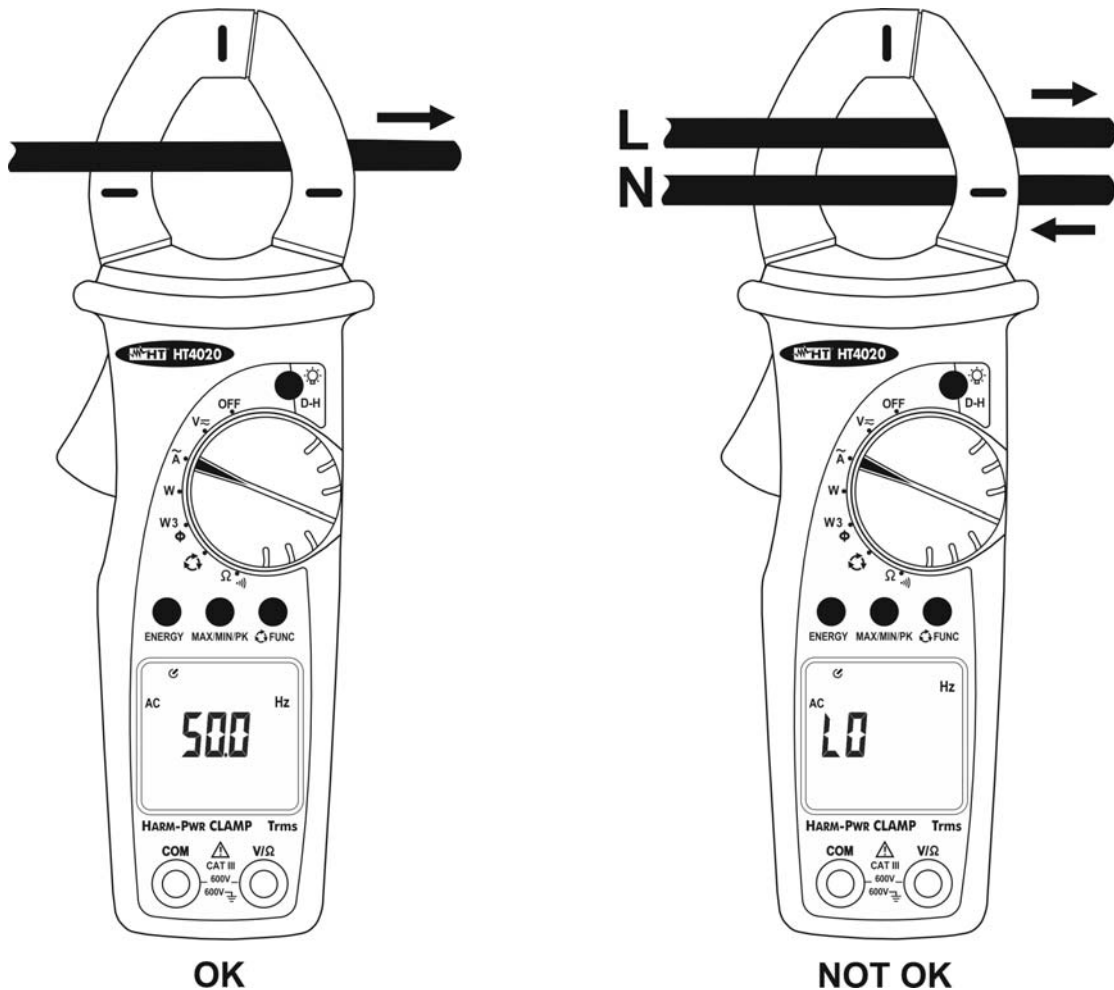

Fig. 9: Use of instrument for AC current frequency measurement
3. Open the jaws and clamp only one cable. Pay attention to the alignment marks (see § 4.1.2. and Fig. 9). The value of frequency is shown on display
4. The symbol “O.L” means that the measured voltage is higher than the full scale of the instrument. The symbol “LO” is shown in case of wrong connection of the instrument (see Fig. 9) or for measured values lower than the minimum range